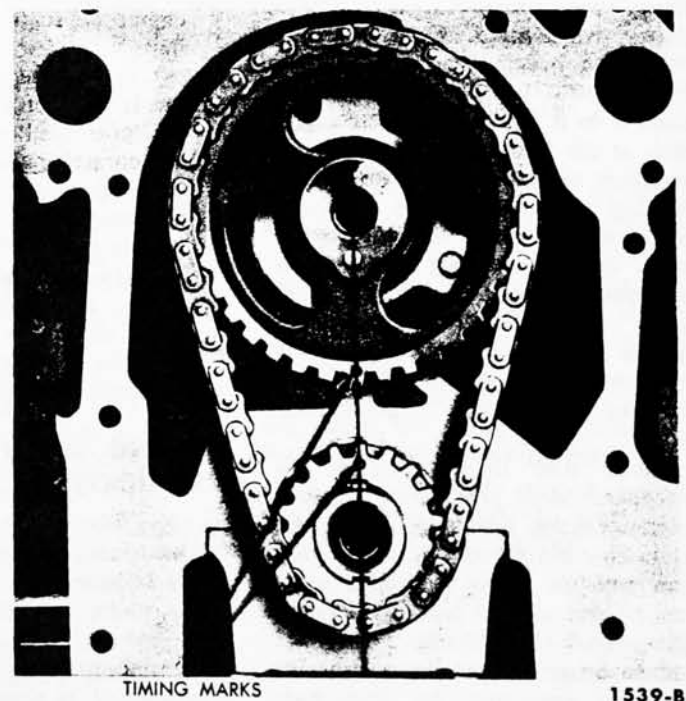

FIG. 43—Aligning Timing Marks
2. Position the sprockets and timing chain on the camshaft and crankshaft (Fig. 21). Be sure the timing marks on the sprockets are positioned as shown in Fig. 43.